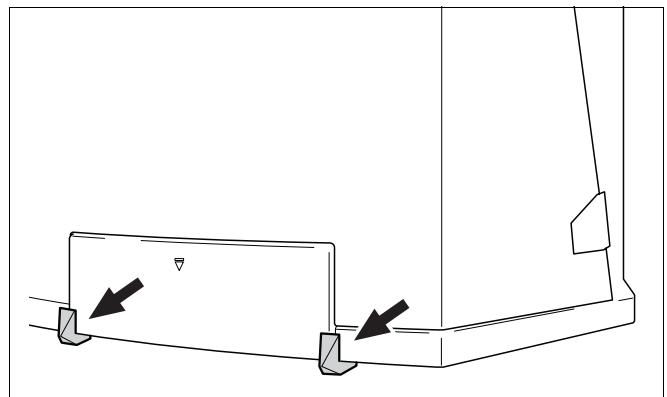

Fig. 6 Removing the transport safety clamps
- Do not remove the transport safety clamps (see fig. 6) from the drawer at this time.
- Remove the transport safety clamps (fig. 6).